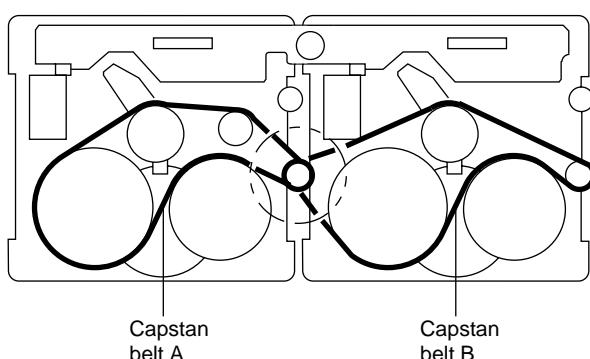

Fig.7
■Removing the woofer speaker (See Fig.7)